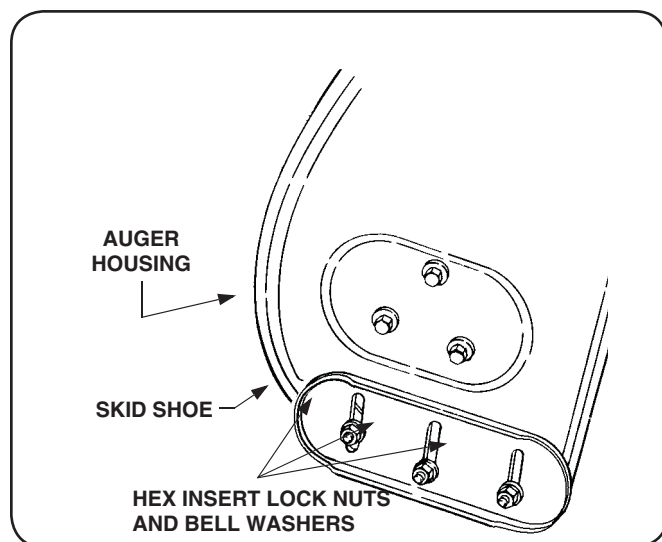

Figure 5-1
- c. Move the skid shoes up or down to the desired position and securely tighten the lock nuts. Adjust both skid shoes to the same height. Refer to Figure 5-1. Remove the blocks.